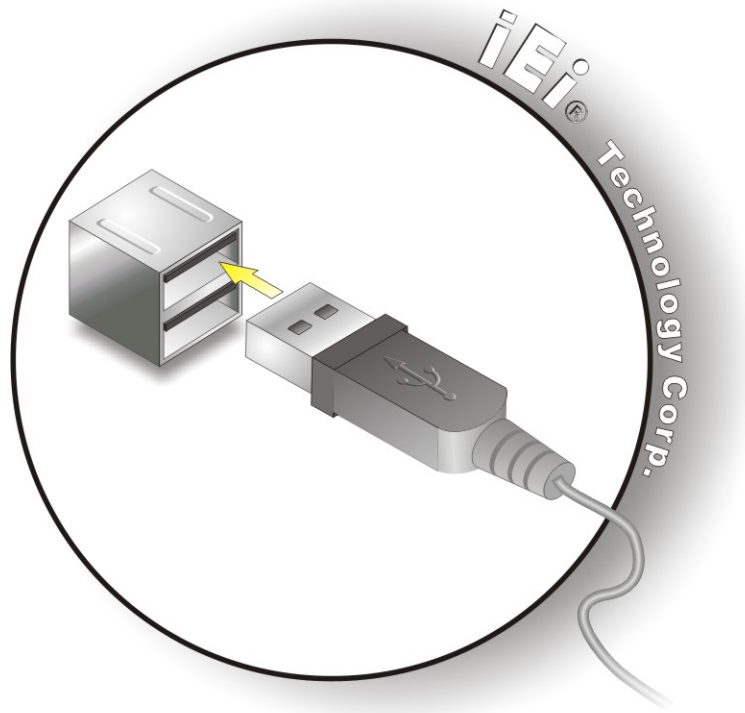

Figure 5-19: USB Connector
Step 2: Insert a USB Series "A" plug. Insert the USB Series "A" plug of a device into the USB Series "A" receptacle on the external peripheral interface. See **Figure 5-19**.